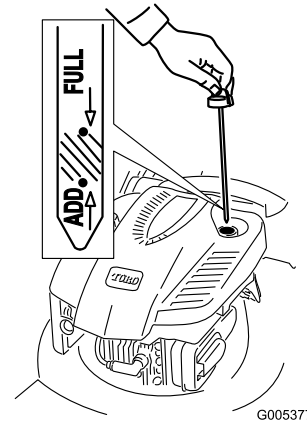

Figure 11
1. Remove the dipstick, wipe it clean, and fully install the dipstick (Figure 11).
2. Remove the dipstick and check the oil level (Figure 11). If the oil level is below the **Add** mark on the dipstick, **slowly** pour oil into the oil fill tube to raise the oil level to the **Full** mark on the dipstick. **Do not overfill.** (Max. fill: 0.59 l, type: SAE 30 detergent oil with an API service classification of SF, SG, SH, SJ, SL, or higher.)